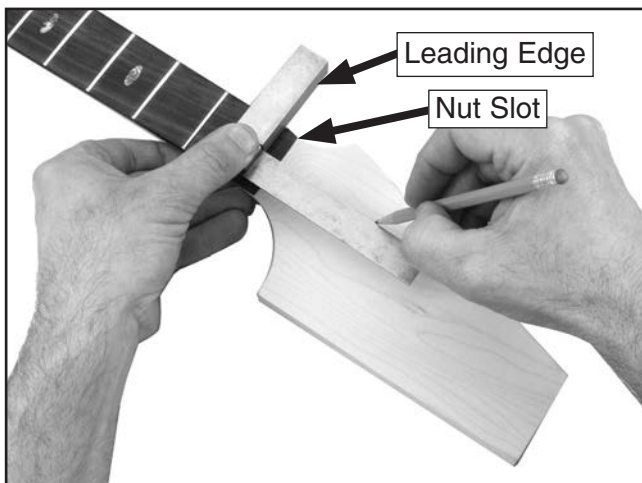

Figure 6. Marking string paths.
2. Remove the nut and align the leading edge a machinist's square with either edge of the nut slot. Use a pencil to extend the string slot marks onto the headstock as shown in **Figure 6**.